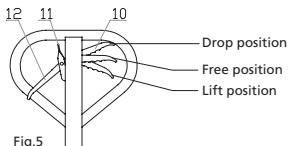

Fig.5
After the truck is assembled, try to rock the hand grip and operate different positions of control handle knob (10) to examine the lifting, free position and dropping and check that whether the different positions are normal or not. See figure 5.
- See figure 5, when hand knob (10) is placed on the lift position, the truck will be in a state of lift. At this time, if you rock the hand grip, the truck will be lifted.